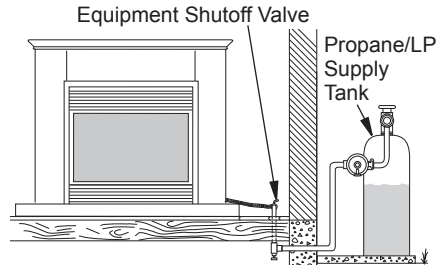

Figure 26 - Checking Gas Joints (Propane/LP Only)
3. Check all joints from gas meter to equipment shutoff valve for natural gas or propane/LP supply to equipment shutoff valve for propane/LP supply (see Figures 26 or 27). Apply noncorrosive leak detection fluid to all joints. Bubbles forming show a leak.
4. Check all joints from equipment shutoff valve to gas control valve (see Figures 26 or 27). Apply noncorrosive leak detection fluid to all joints. Bubbles forming show a leak.
1. Remove jumper wire from control valve (see Figure 26).